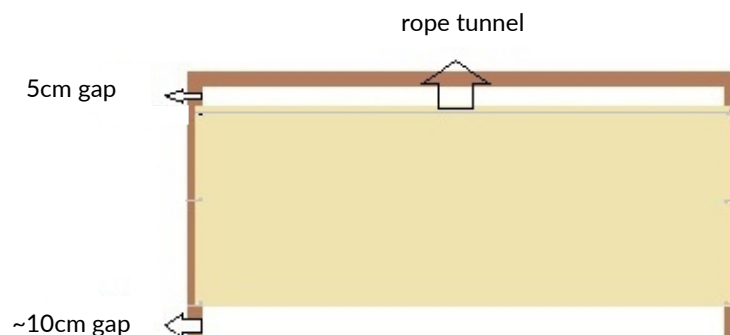

Figure 2. Proposed method of curtain installation (top finish with a tunnel and sides with eyelets).
2. Determine the height at which the upper rope should be fitted - preferably approx. 5 cm under the upper beam of the structure to which it is attached (Fig. 2.)